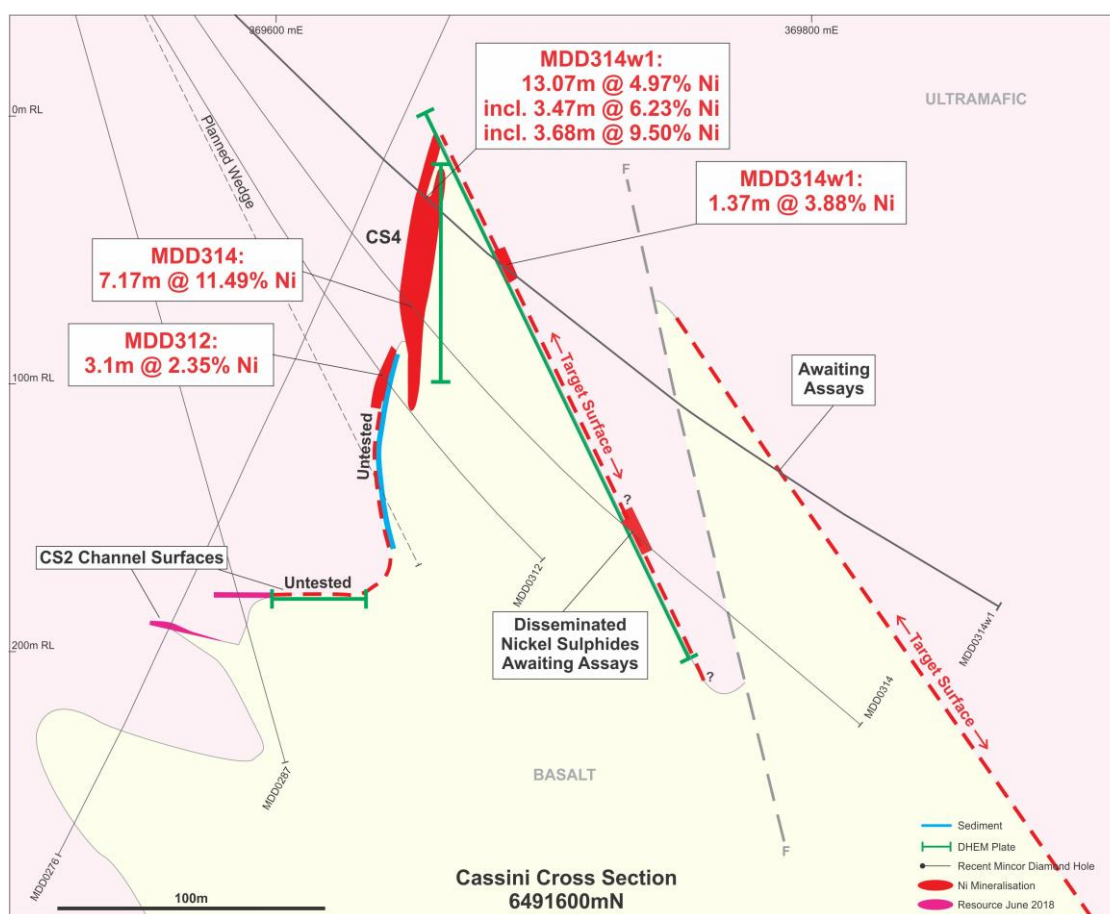

FIGURE 2: Cross section 6491600N ¹
- MDD314W1 continued beyond CS4 and confirmed new targets along the structurally repeated “limbs” of the Cassini basal contact, with a significant zone of high-grade nickel also intersected on a limb located near the footwall of the CS4 Channel (Figure 2):
- This intersection on the edge of a major interpreted synform, in combination with a separate large DHEM conductor, highlights the potential for additional nickel sulphide-bearing channels to be located nearby (Figures 2 and 3).
Mincor's current drilling program is targeting down-plunge extensions of the CS4 Channel and has so far returned impressive nickel results in the first step-out section on 6,491,600N (Figure 2).
The wedge did return a promising intersection of **1.37m @ 3.88% Ni**. This interval is located along an interpreted folded limb of the basal contact in the footwall of the CS4 Channel (Figure 2) and in combination with a separate large DHEM conductor, highlights the potential for additional nickel sulphide-bearing channels to be located nearby (Figures 2 and 3).
This promising new target surface will be tested by extending planned wedge holes testing the CS4 Channel (Figure 2).